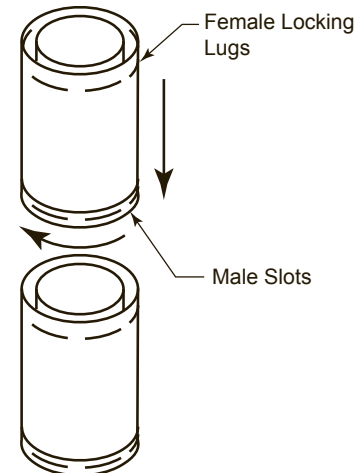

Figure 14 - Rigid Vent Pipe Connections
Twist-lock Procedure: The female ends of the pipes and fittings have three locking lugs (indentations). These lugs will slide straight into matching slots on the male end of adjacent pipes and fittings. Push the pipe sections together and twist one section clockwise approximately one-quarter turn until the sections are fully locked. *Figure 14.*
2. Assemble the desired lengths of pipe and elbows necessary to reach from the burner system flue up through the firestop. Be sure pipe and elbow connections are fully twist-locked. *Page 15, Figure 14*